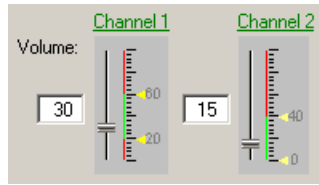

Figure 13. Volume and Tone Adjustment Panel
2. In the **Volume and Tone** adjustment area of the main window, click and drag the yellow arrows up or down to change the upper and lower limits (see figure 13). Limits for channels tied together will change simultaneously.